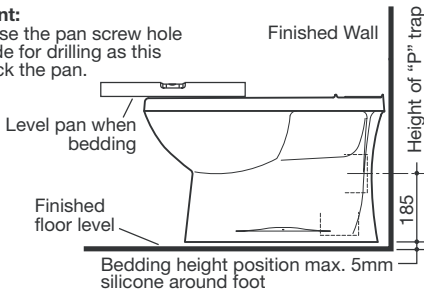

Fig. 4
- 1- Position pan onto pan connector and locate the cistern onto the pan, checking that the cistern aligns with the finished wall. Adjust pan position if necessary and mark location of pan fixing holes on the floor. Remove the cistern and pan, as detailed in Fig. 4.